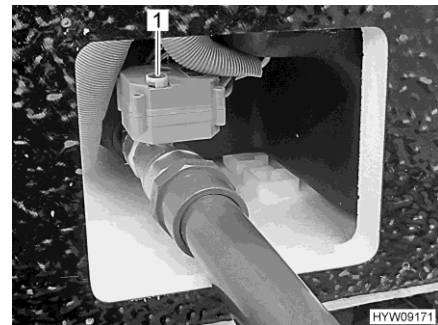

Fig. 164 Handwheel (waste water tap)
- To open the waste water tap, pull handwheel (Fig. 164,1) upwards and turn in an anticlockwise direction as far as it will go. The direction of rotation (O for opening, S for closing) is marked on the handwheel.
- To close the waste water tap, pull handwheel (Fig. 164,1) upwards and turn in a clockwise direction as far as it will go.